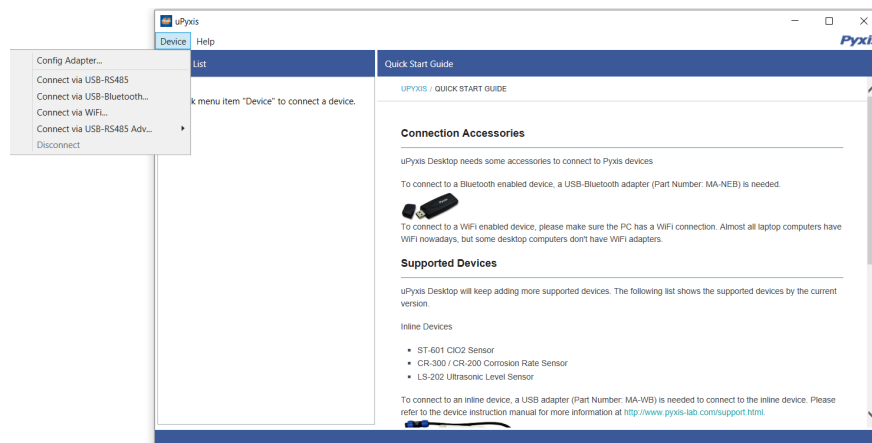

Figure 20.
4. On **uPyxis®** Desktop App, click Device → Connect via USB-Bluetooth (Figure 20).
5. If the connection is successful, the LS-202 and its Serial Number (SN) will be displayed in the left pane of the **uPyxis®** window.